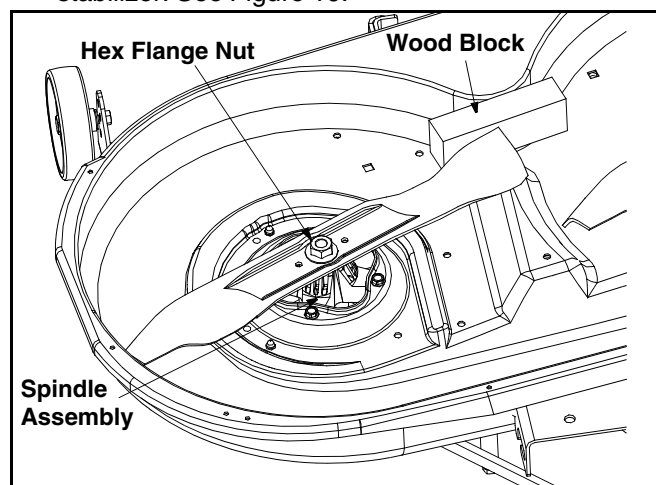

Figure 16
- Place a block of wood between the center deck housing baffle and the cutting blade to act as a stabilizer. See Figure 16.
- Use a 15/16" wrench to remove the hex flange nut that secures the blade to the spindle assembly. See Figure 16.